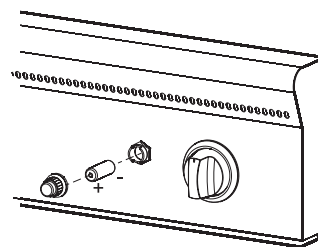

Figure 8
- Remove ignitor button, insert AA battery (provided) positive side facing out, replace ignitor button. See Figure 8.